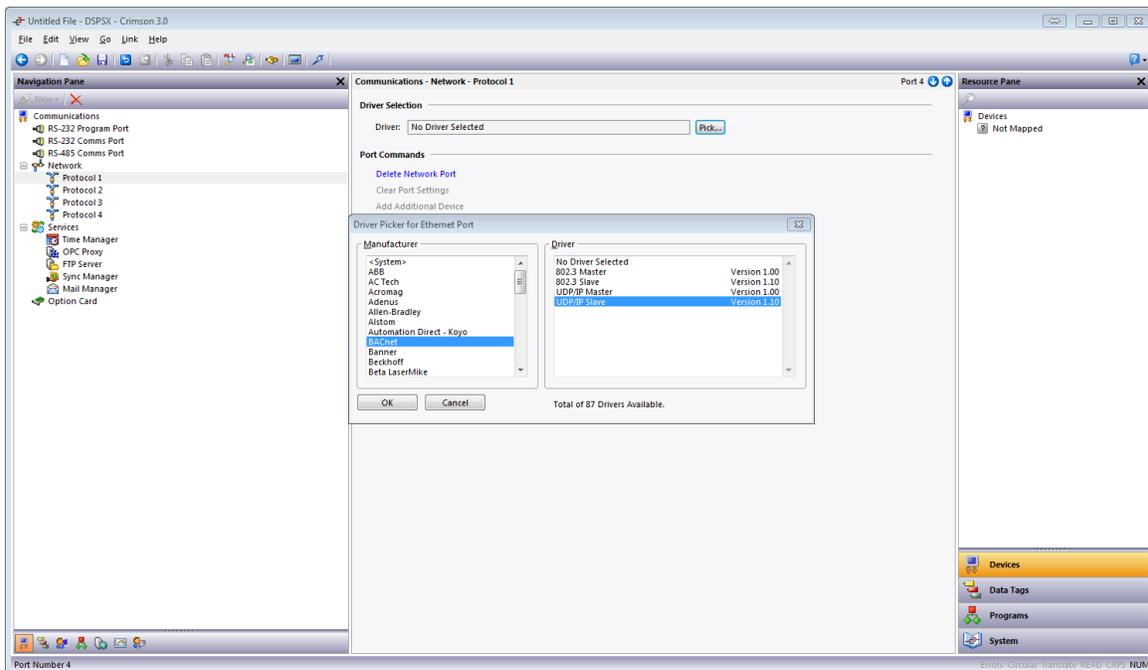

Figure 11.
1. Referring to Figure 11, go to the Navigation Pane and click on the Protocol to be configured; *Protocol 1* in this example.